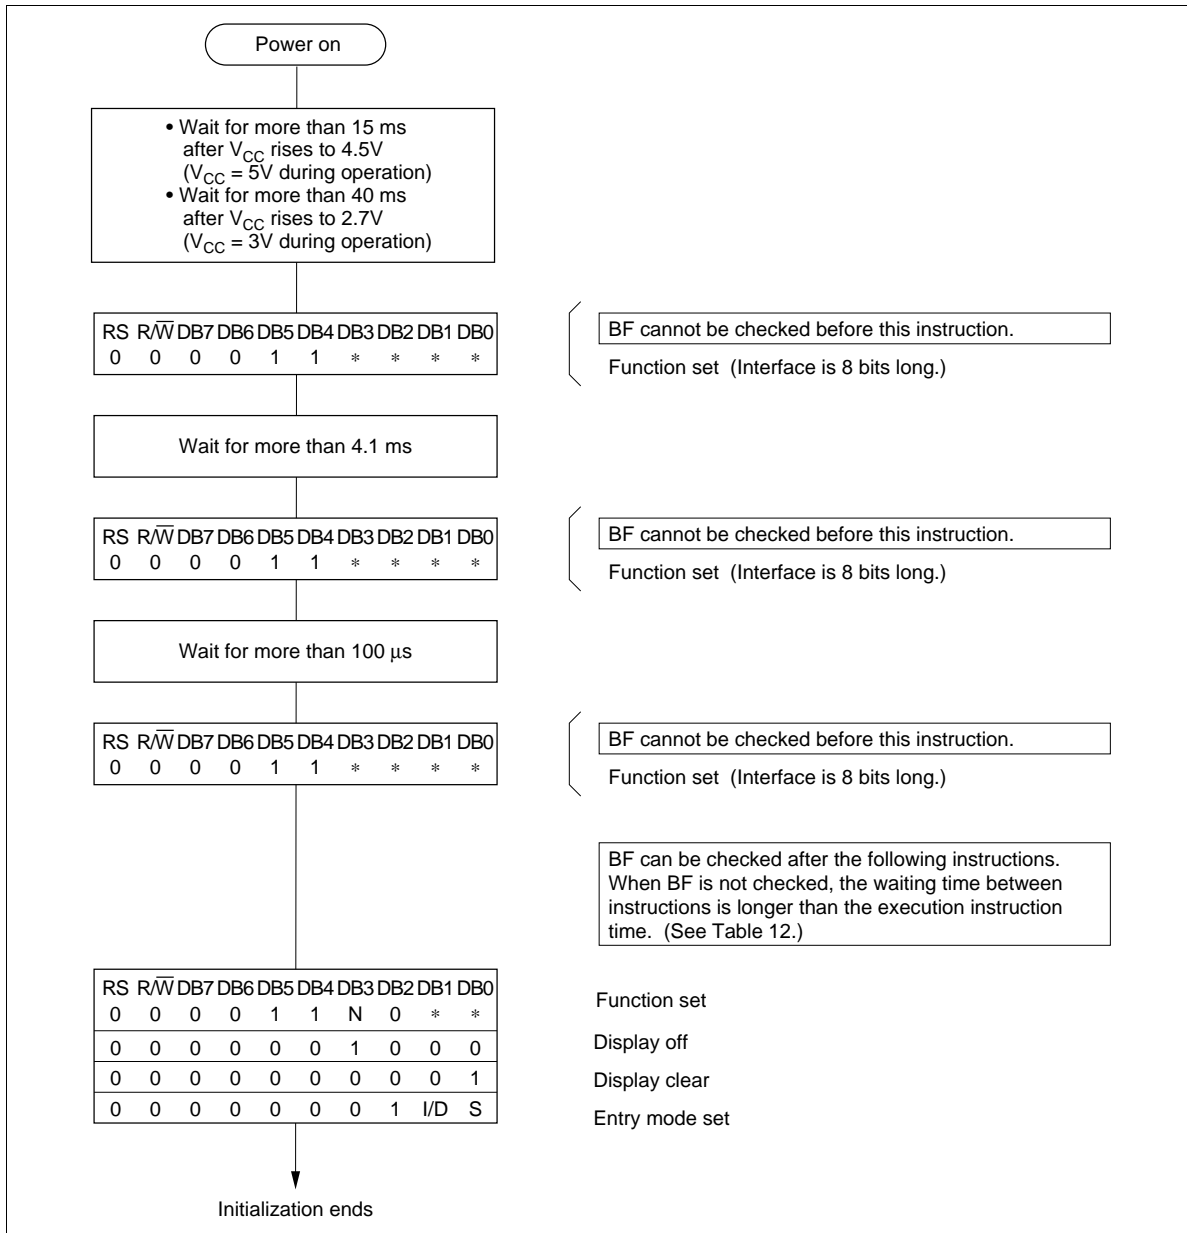

Figure 29 Initializing Flow of 8-Bit Interface
- Initializing when a length of interface is 8-bit system. (See Figure 29.)